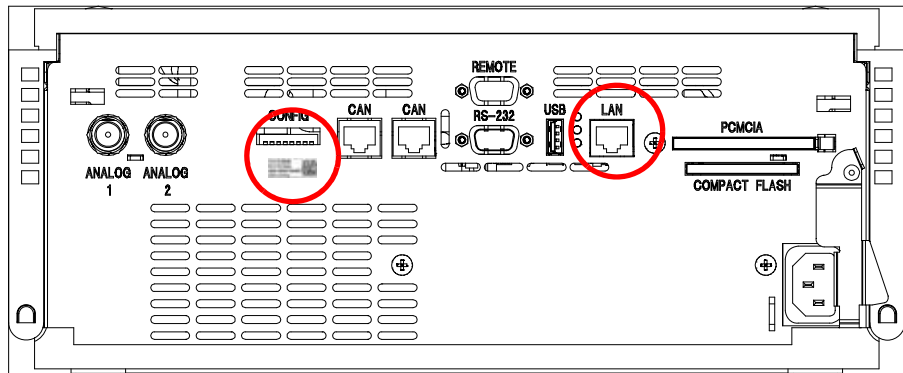

Figure 6 Location of LAN interface and MAC label
- 1 Note the MAC (Media Access Control) address for further reference. The MAC or hardware address of the LAN interfaces is a world wide unique identifier. No other network device will have the same hardware address. The MAC address can be found on a label at the rear of the detector underneath the configuration switch (see Figure 6).
- 2 Connect the instrument's LAN interface (see Figure 6) to